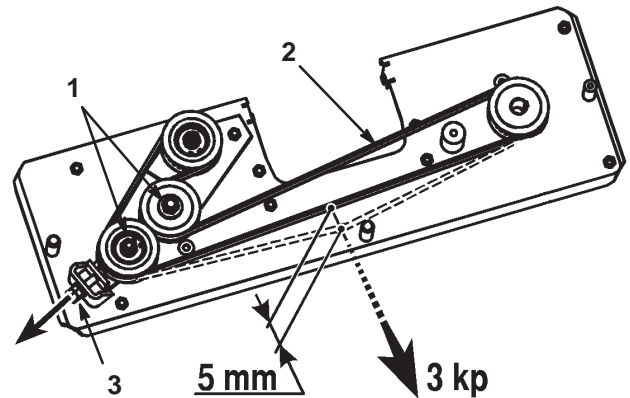

Figure 40
- Loosen the two hex nuts on the idler pulley (Fig. 40).
- Adjust the M10 nut until the belt flexes 5 mm with 3 kp of force (Fig. 40).